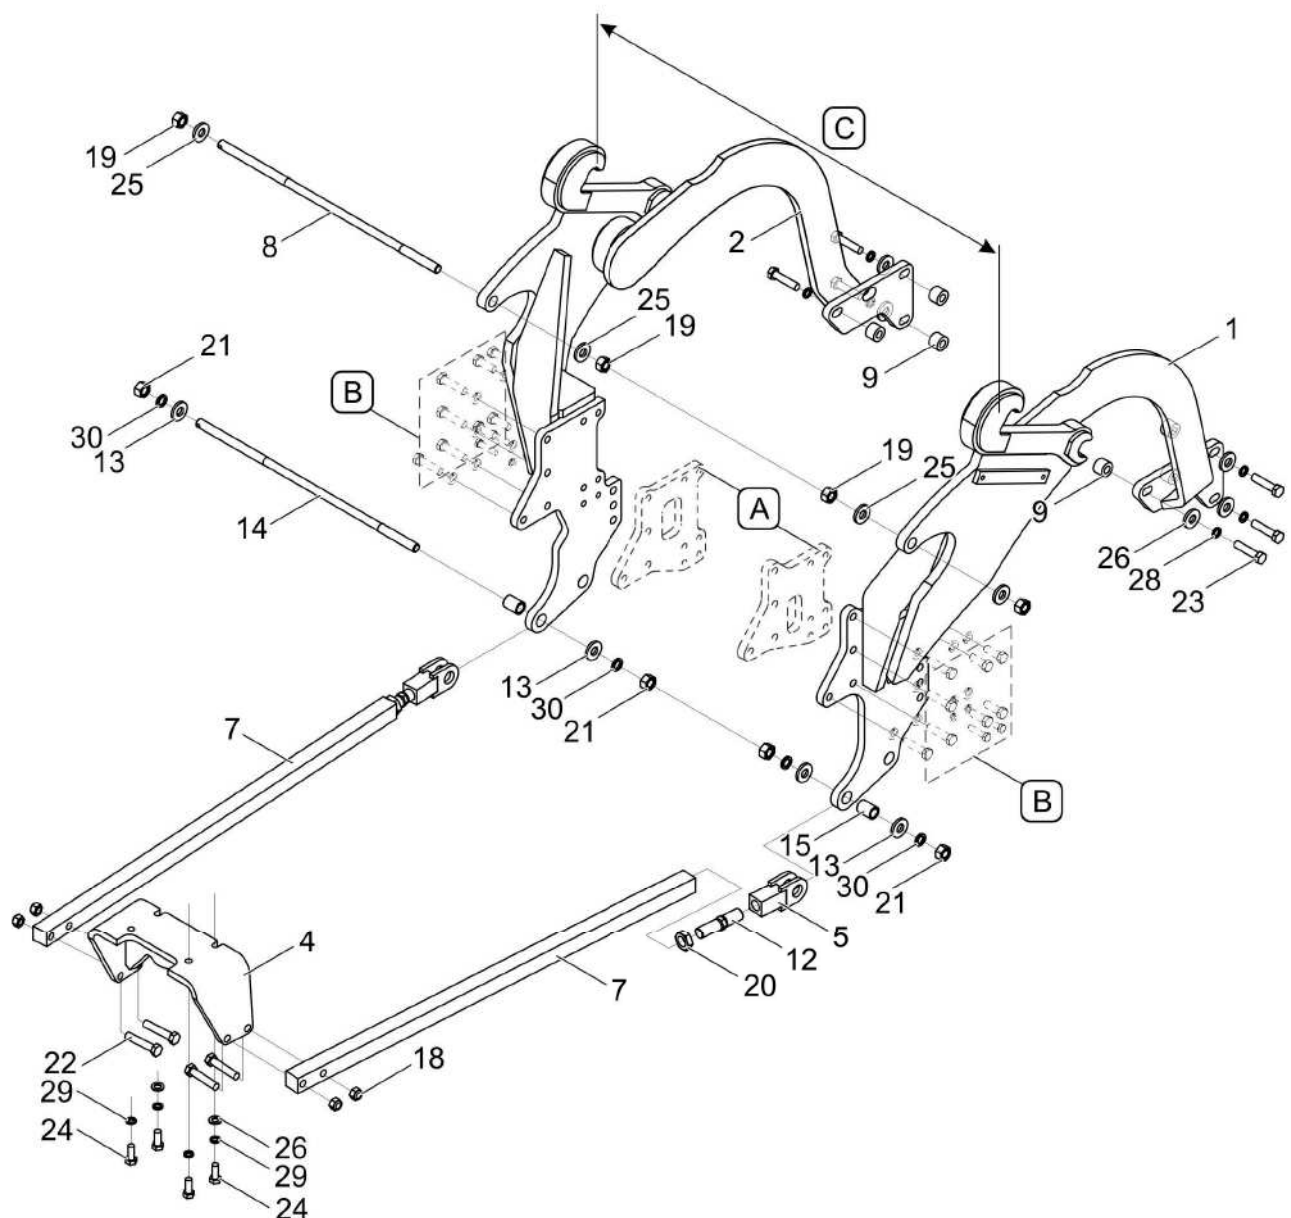

FIG. 4.1A Mounting bearing frame on Pronar 5115/5135 tractors
On Pronar 5115/5135 tractors; prior to mounting the bearing frame dismount panels (A) (FIG. 4.1A). With bolts (B) present in tractor, screw down brackets (1) and (2). Front part of brackets (1) and (2) screw down to front axle bracket with the aid of bolts (23) with washers (28) and (26). In tractors without front three-point linkage, apply sleeves (9). Brace bracket (4) is mounted to driving axle using bolts (24), washers (29) and (26). To bracket (4), with bolts (22) using nuts (18) screw down brace bracket (7), to which securing rod (14) through sleeves (15) is connected to brackets (1) and (2) using nuts (21) and washers (13) and (30). Make certain that double ended bolts (12) are uniformly screwed out from brace rods (7) and brace eye (5). Upper securing rod (8) shall be secured using nuts (19) and washers (25) in order to obtain between side surfaces of bracket hooks (1) and (2) the distance $C = 914$ mm. Eliminate slack from bearing frame screwing out double ended bolts (12) from brace rod (7) and brace rod eye (5), tightening conternuts (20).